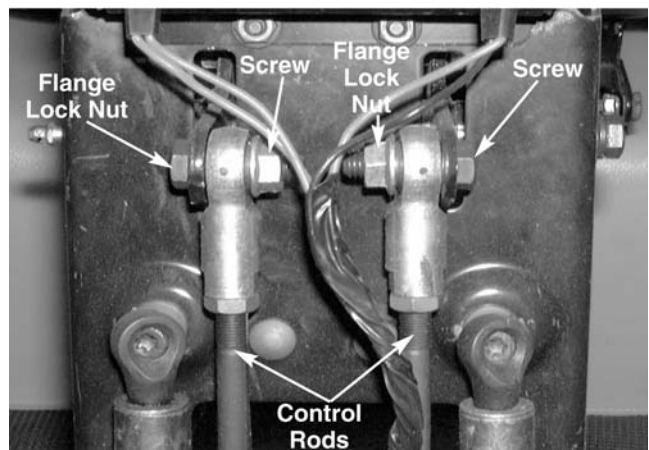

Figure 10-5.
10. Remove the hex cap screw and flange lock nut securing each control rod assembly to the upper left and right bellcrank assemblies using a 9/16 socket and 9/16 wrench. See Figure 10-5.